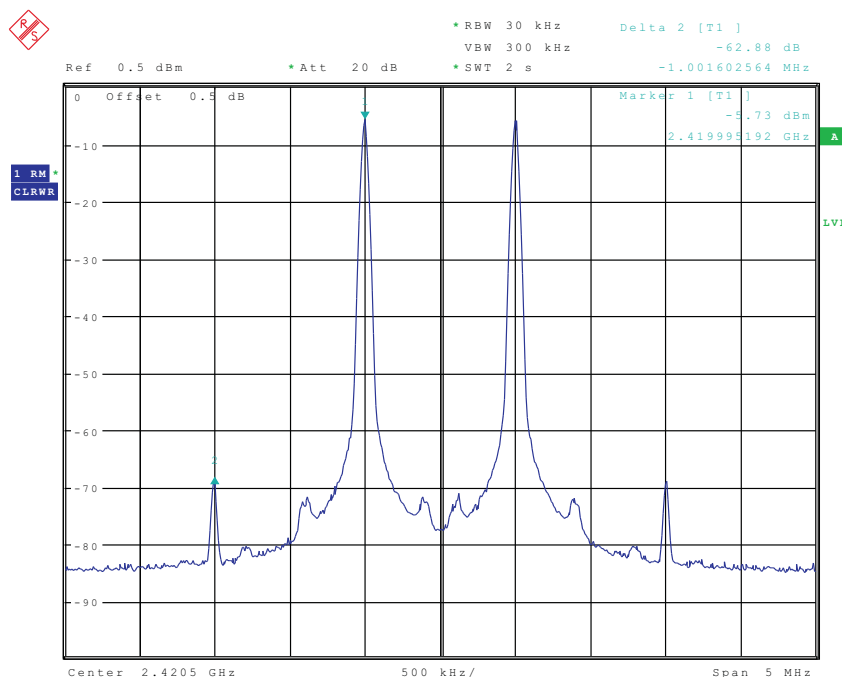
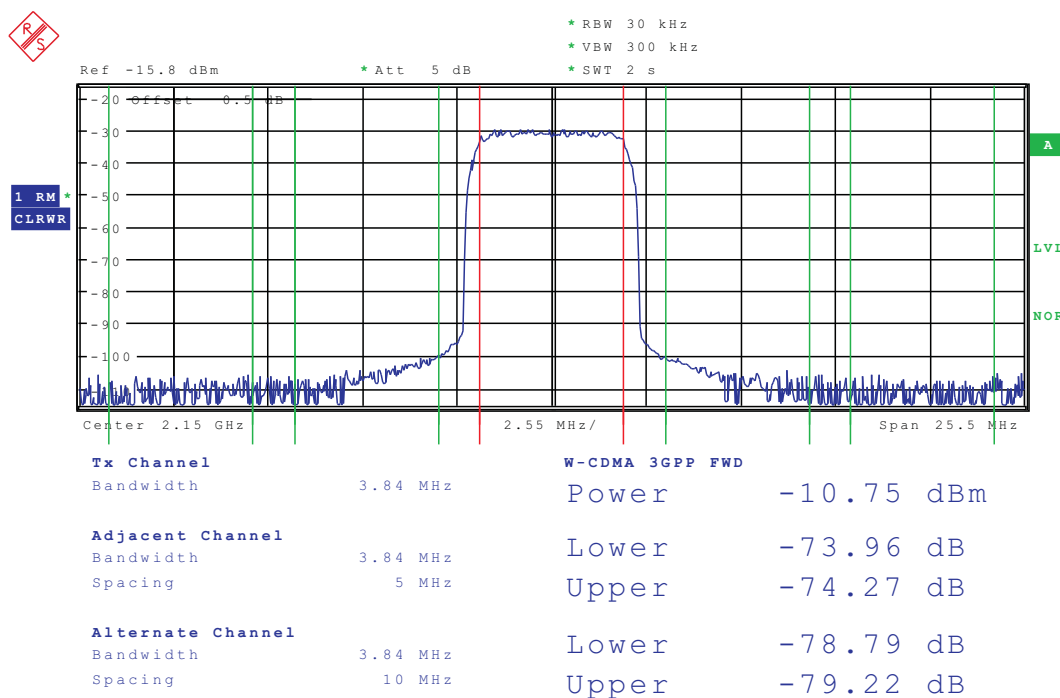
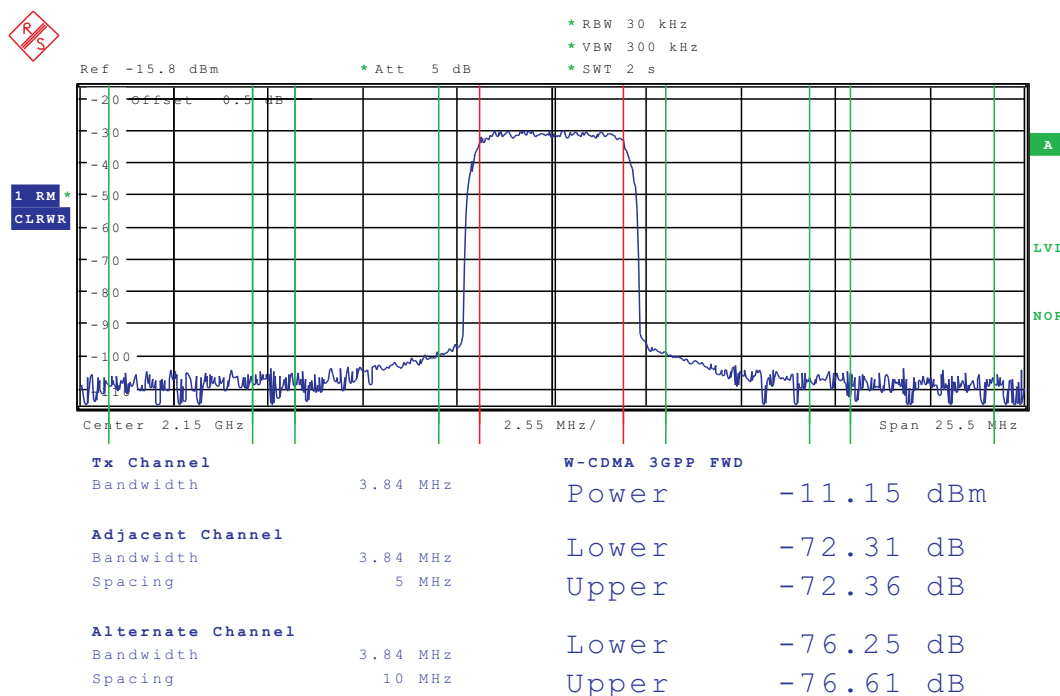

Figure 6. Two-Tone IMD Performance: LO = 2400 MHz, DAC Clk = 614.4 MHz, 2× Interpolation, IF = 20, 21 MHz
Figure 7. WCDMA ACPR: LO = 2120 MHz, DAC Clk = 614.4 MHz, 2× Interpolation, 30-MHz Offset
Figure 8. WCDMA ACPR: LO = 1966.4 MHz, DAC Clk = 614.4 MHz, 2× Interpolation, $f_s/4$ mixing, 30-MHz Offset
7. Monitor the output signal at the RF output connector. If default LO frequency of 2400 MHz is used and the TSW3100 is set up with two tones at 20 MHz and 21 MHz, then the tones seen in Figure 6 are at 2420 MHz and 2421 MHz.
Figure 6, Figure 7, and Figure 8 show the typical two-tone and ACPR performance of the DAC3282 EVM from the setup in Section 3.4. This performance incorporates the DAC device and the TRF372017 modulator device.